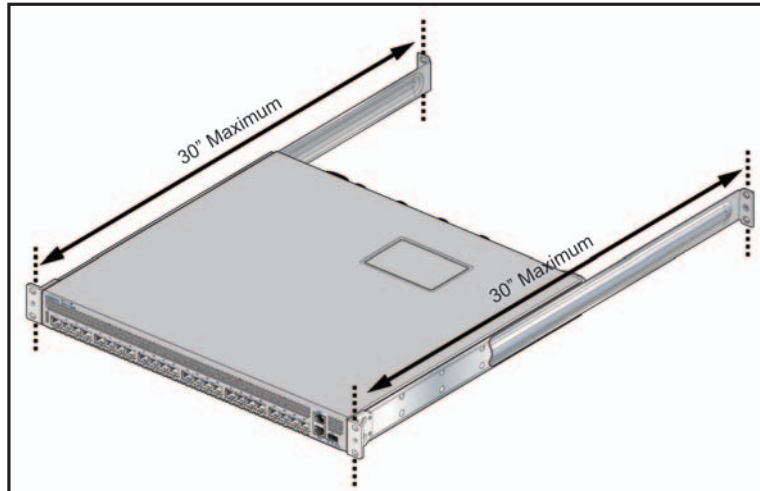

Figure 3-10: Maximum Bracket-Rail Span
The rails attach to the rear rack posts to support the switch. Before attaching the rails to the rack posts, verify that, when the switch is mounted, the distance between the bracket flanges and rail flanges does not exceed 30 inches, as shown in Figure 3-10 on page 10.
- Step 4** Verify the distance between the mounting bracket flanges and rail flanges does not exceed 30 inches (see Figure 3-10 on page 10).